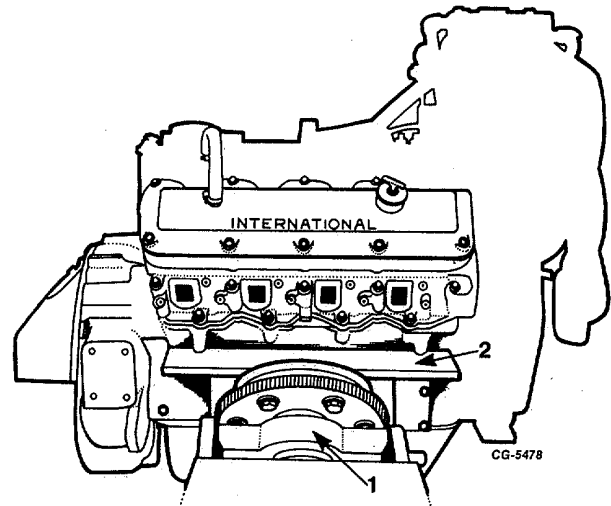

Fig. 13 Engine Mounted on Overhaul Stand
- e. Mount engine, with adapter, in overhaul stand (Figure 13).